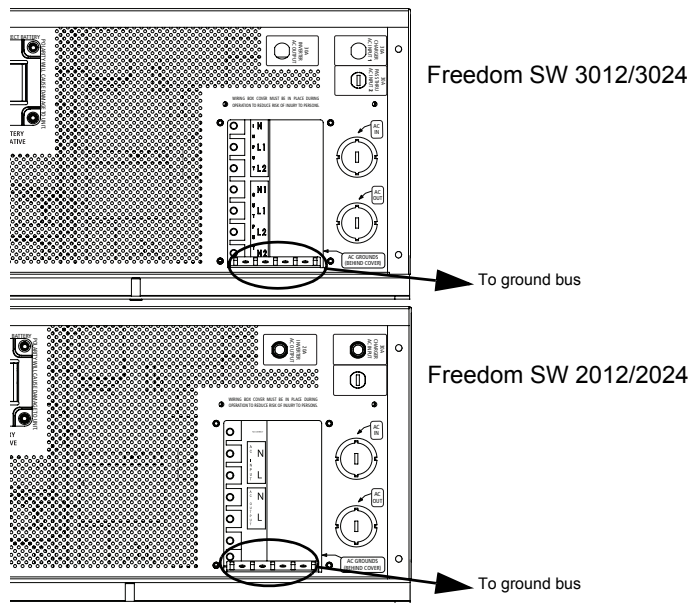

Figure 7 AC Wiring Compartment
AC Wiring Compartment For your reference, the AC wiring compartment is shown in Figure 7 on page 28.
Figure 7 shows the wiring compartment, which contains a grounding bus (used to wire the AC input and output ground wires) and a terminal block (used to wire the AC input and AC output connections).
8. Connect the line and neutral wires to the input terminals (labeled AC Input) on the terminal block, Figure 7 on page 28).
10. Connect the ground wires to a free position on the ground bus, Figure 7 on page 28. If solid ground wire is being used, the wire can be connected directly under the screw heads. If stranded ground wire is being used, ring terminals must also be used.
5. Connect the line and neutral wires to the output terminals (labeled AC Output on the terminal block, Figure 7 on page 28) as follows:
7. Connect the ground wires to a free position on the ground bus, Figure 7 on page 28. If solid ground wire is being used, the wire can be connected directly under the screw heads. If stranded ground wire is being used, ring terminals must also be used.